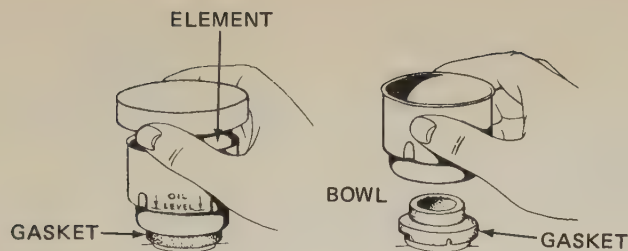

FIG. 18-1 Removing oil-bath air cleaner for cleaning and replacement of the oil. (Briggs & Stratton Corporation)
**Oil-Bath Air Cleaner** To remove an oil-bath air cleaner, disconnect the spark-plug wire to make sure the engine will not start. The air cleaner will be secured either by a bail wire, by screw threads on the filter element itself, or by a wing nut. The air cleaner can be removed by taking off the bail wire or wing nut, or by unscrewing the filter element as shown in Fig. 18-1. If there is any chance that dirt or dust might fall into the carburetor, cover the opening with a clean cloth or plastic film.
separate them and pour out the old oil. Clean the oil cup, filter, and cap with solvent and a brush, as shown in Fig. 18-2. Be sure to remove any caked dirt in the bottom of the oil cup. Refill the cup to the oil-level mark with the oil specified—usually SAE 30—shown in Fig. 18-1.